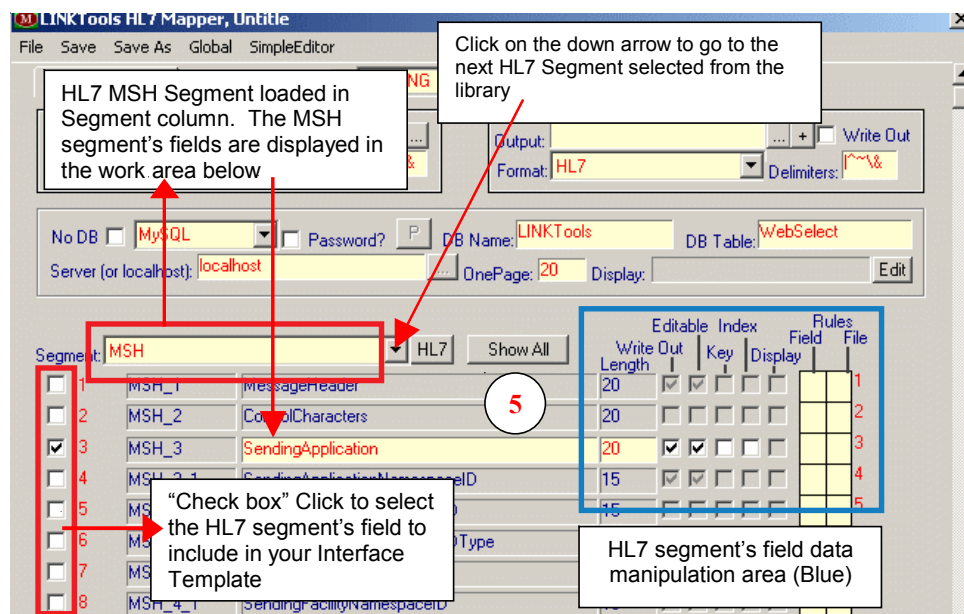

Figure 7: HL7 segment and field display for selection from the Dynamic Mapper Configuration Dialog Box.
1. **Segment Column:** This column displays the first segment of HL7 selected from the library. The segment and sub segment fields of that HL7 segment are loaded into the work area below. Users can pick the segment fields to include in their interface template by clicking in the check box on the left of the work area. To select the next HL7 segment, click on the down arrow to the right of the Segment column. (Figure 7)